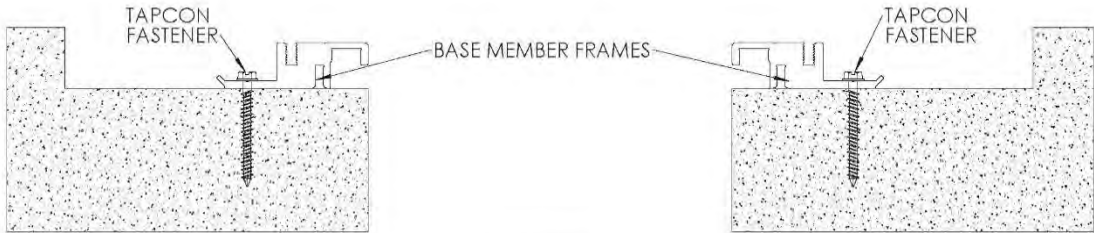

FIGURE 2
- 2. Position base member frames in blockout per shop drawings. Using the frame as a template mark, drill 5/32" holes for Tapcon fasteners. Install base member frames to the blockout opening with fasteners, making sure not to over tighten. **See Figure 2**